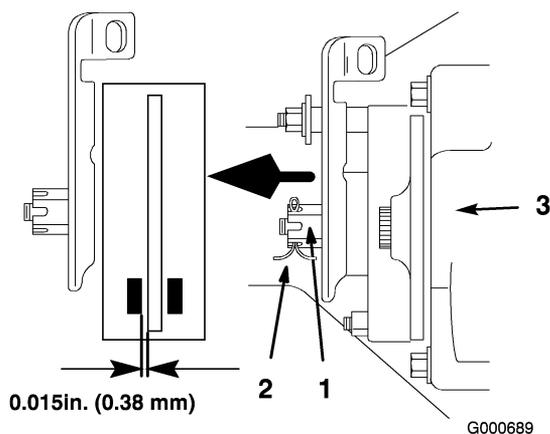

Figure 51
3. To adjust the brake remove the cotter pin and loosen the brake adjusting nut slightly (Figure 51).
4. Carefully insert a 0.015 inch (0.38 mm) feeler gauge between the outer brake pad and rotor disk (Figure 51).